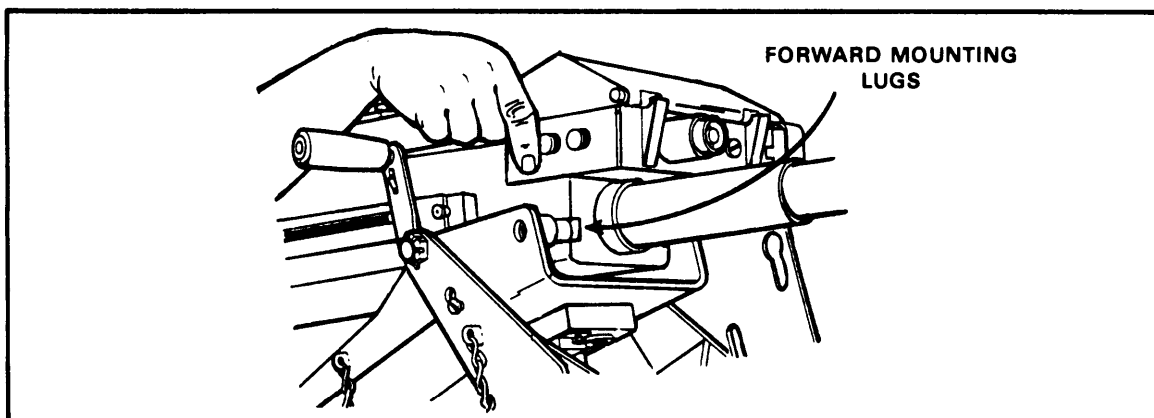

Figure 3-8. Mounting lugs.
(1) Lift the MK 19 into the gun cradle. One soldier holds the barrel while another holds the control grips. The one holding the grips stands between the trail legs of the tripod; the other straddles the front leg. The soldiers lift the MK 19, barrel first, onto the cradle.
(2) Align the grooves on the receiver with the lugs in the gun cradle, and slide the receiver forward (Figure 3-8) .